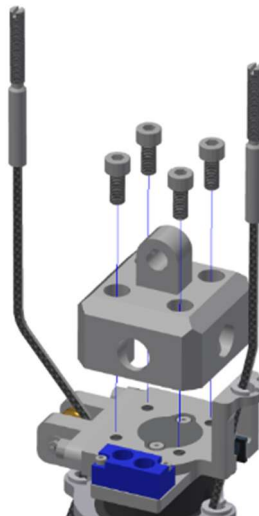

Figure 4-39. Install the upper neck load cell (SA572-S105)
- 4.3.9 Install the Upper Neck Load Cell (SA572-S105) (or Upper Neck Load Cell Structural Replacement 474-2326) to the top plate of the Molded Neck Assembly (474-2110) using four M5 X 0.8 X 12 SHCS (Figure 4-39). The Upper Neck Load Cell cables are assembled to the left side of the neck.